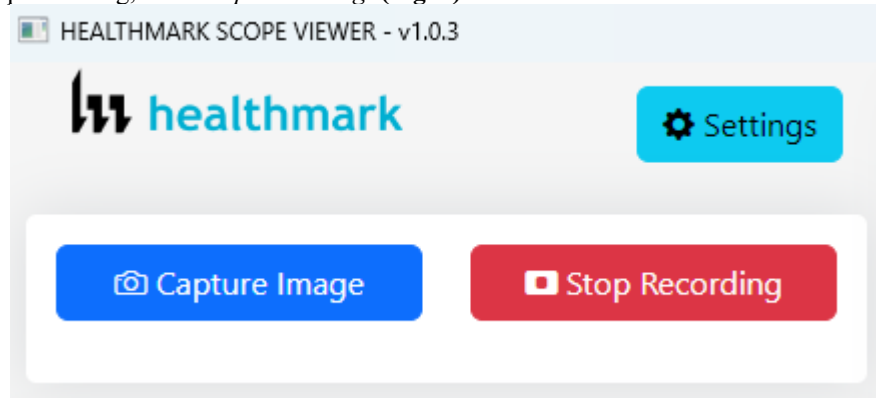

Figure 6
2. To stop recording, click *Stop Recording*. (**Fig. 6**).